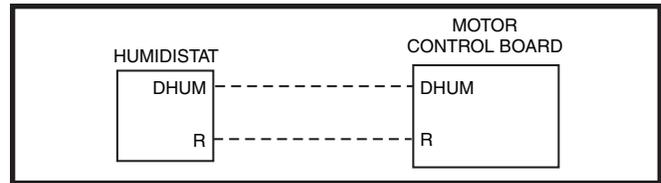

Figure 18. DHUM Wiring Configuration
1. If the room thermostat incorporates a humidity sensor and **DHUM** output, connect the **DHUM** on the thermostat to the **DHUM** terminal on the motor control board. See Figure 18.